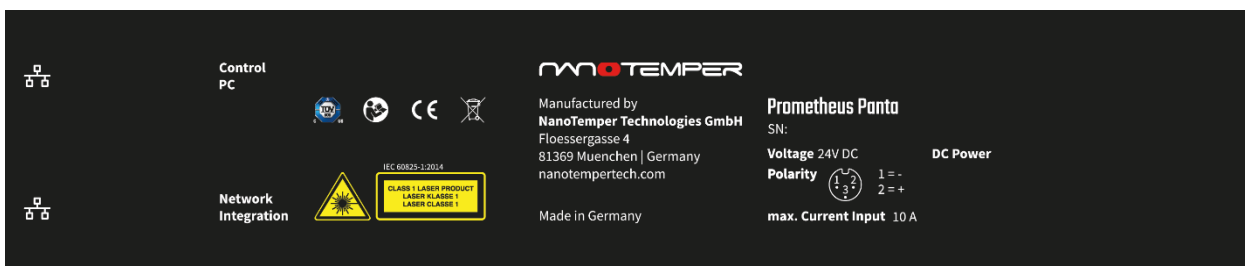

Figure 1: Identification labels for Prometheus Panta.
The identification labels (Figure 1) are positioned at the rear panel of the instrument. They include manufacturer information, system model name and serial number (SN), electrical requirements, and the CE conformity symbol.